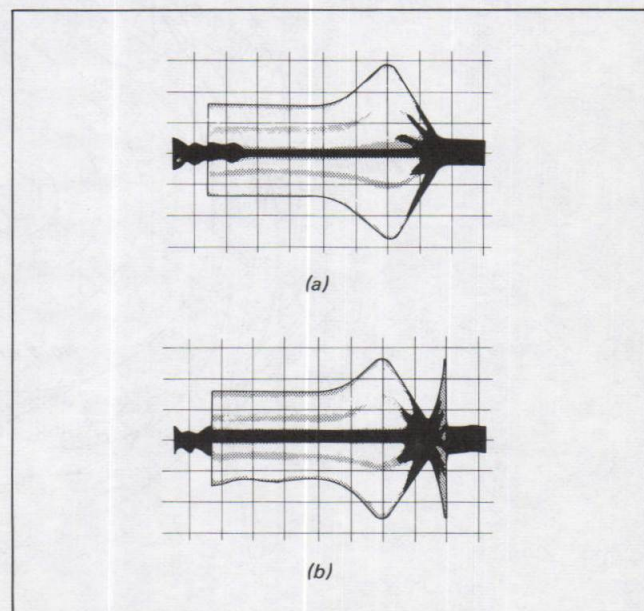
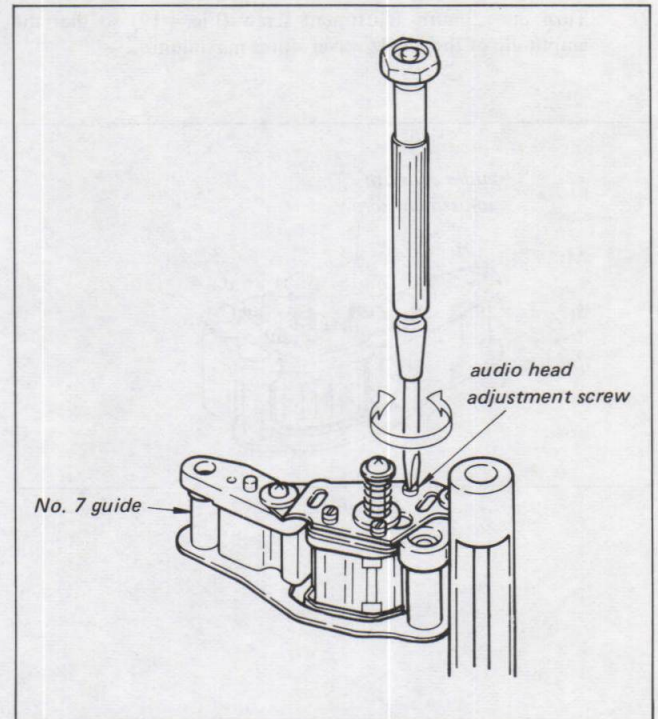
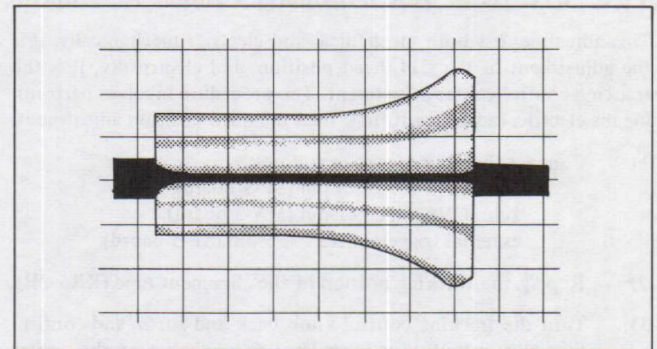

Fig. 4-7.
Fig. 4-9.
Fig. 4-10.
- i) If the exit free waveform is within the range illustrated in Fig. 4-7(a), (b), process with exit side adjustment.
- i) If the waveform is within the range illustrated in Fig. 4-7(a), (b), proceed with the adjustment.
- ii) If the exit free waveform appears as shown in Fig. 4-10, turn the ACE lateral adjustment screw clockwise (less than 30°) until the waveform is within the range illustrated in Fig. 4-7(a), (b). (See Fig. 4-9)